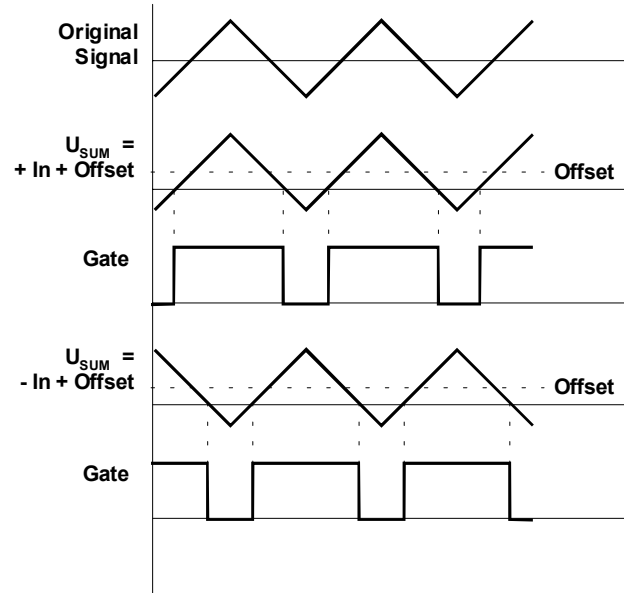

Fig. 2: A-167 as attenuator / offset generator
If only one of the inputs is used the module works as an **offset generator** (and attenuator); the attenuated and - if input ❷ is used - inverted voltage with offset is available at the Analog Sum socket ❸ (see fig. 2 and chapter 6).